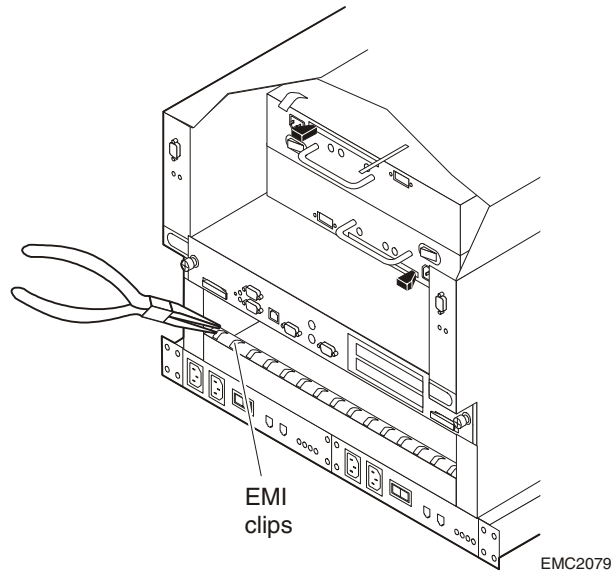
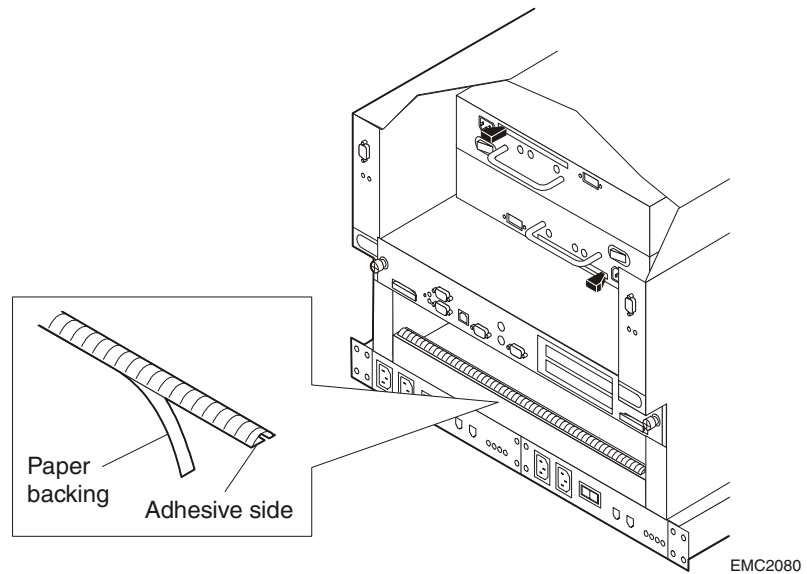

Figure 2 Removing the EMI Clips
Figure 3 Installing the SP Enclosure EMI Gasket
9. Install the new EMI shield gasket in the lower SP enclosure, as shown in Figure 2 and Figure 3.
- a. Use needle-nose pliers to remove the EMI clips from the SP enclosure (see Figure 2).
- b. Remove the paper backing from the gasket adhesive, and then install the EMI gasket between the lines of holes that held the EMI clips. Refer to Figure 3.